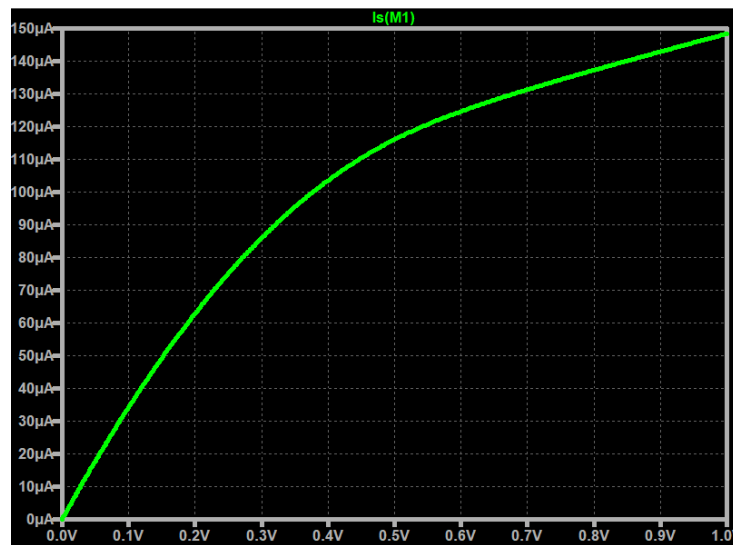

Figure 2.8 Short-channel PMOS I_{SD} vs V_{SD} with $V_{SG} = 1V$
2. First, simulate a DC sweep (not parametrized) of V_{SD} from 0V to 1V in 1mV increments. Let $V_{SG} = 1V$. Also, let's **get the source current**. You should get Figure 2.8.